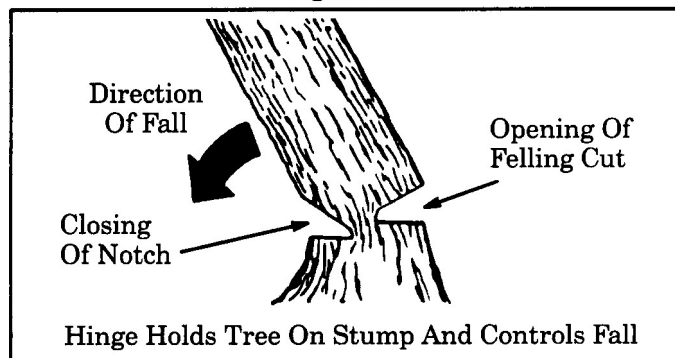

Figure 20
- Leave enough uncut wood between the felling cut and the notch to form a hinge. Figure 20.